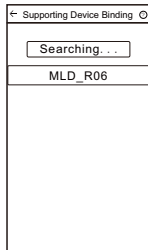

图2
7. Click "MLD_R06" displayed on the App(As shown in Figure 2) .